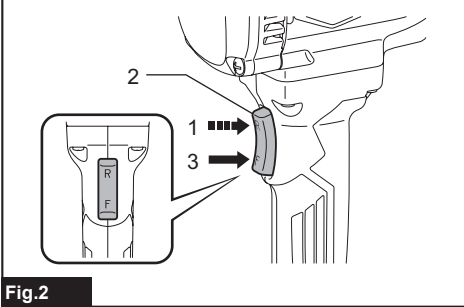

Fig.2
► Fig.2: 1. Counterclockwise 2. Switch trigger 3. Clockwise